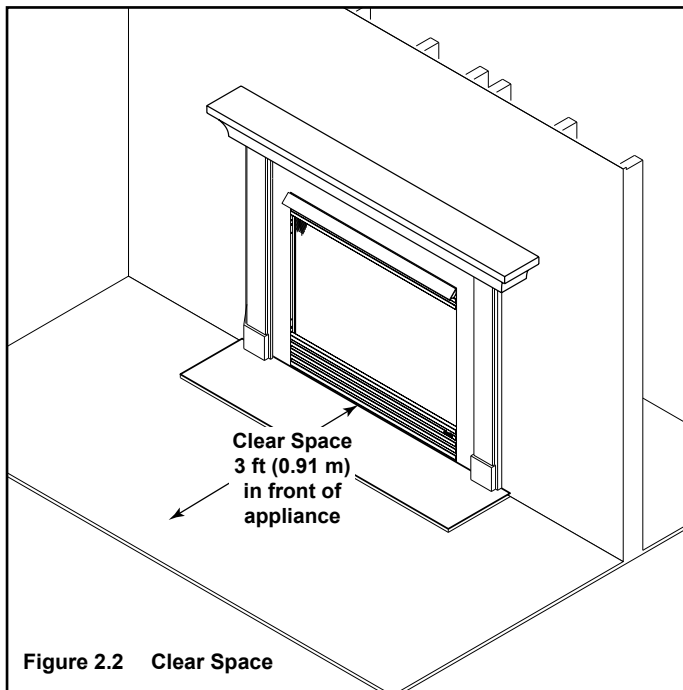

Figure 2.2 Clear Space
**WARNING! DO NOT place combustible objects in front of the fireplace or block louvers. High temperatures may start a fire. See Figure 2.2.**